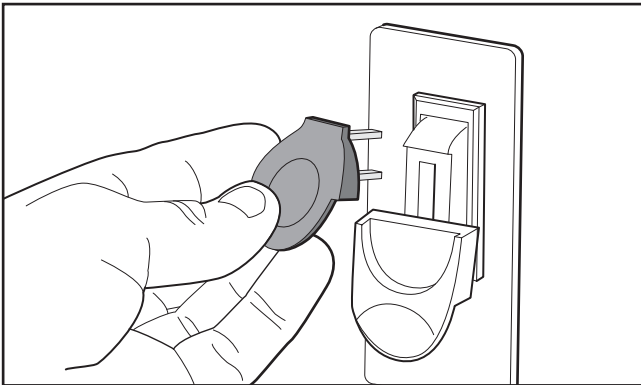

Figure 23. Removing key from ON/OFF paddle switch.
4. Remove key, as shown in **Figure 23**.